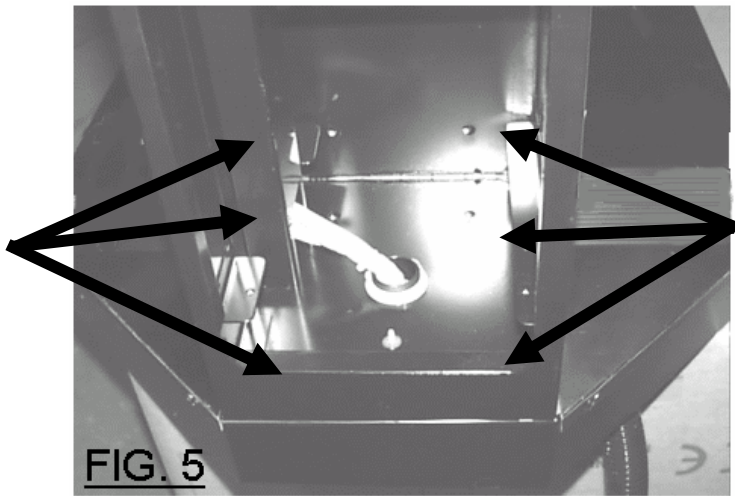

**FIG. 3**
6. Offer the Coin Tower up onto the Floor (Fig 3) ensuring that the Flexipipe continues through the access hole (Fig 4).